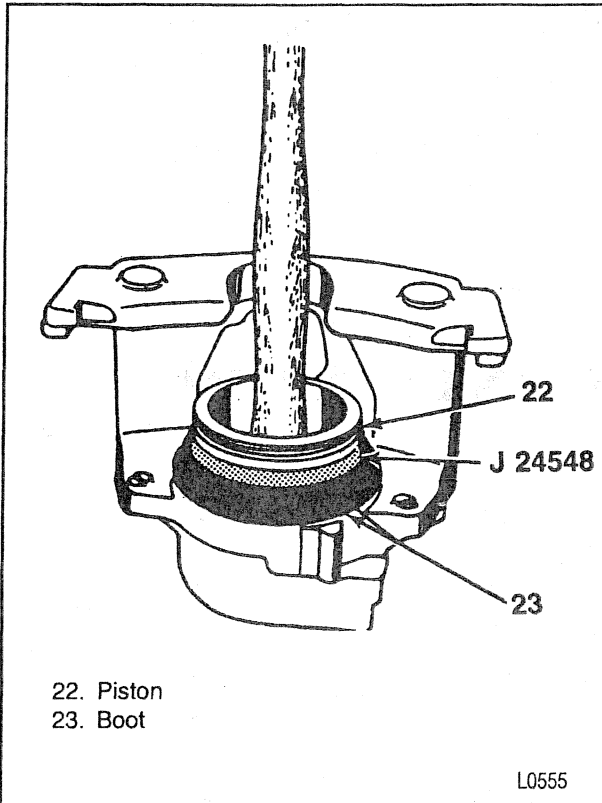

Figure 32—Installing the Piston
5. Piston (22) inside J 24548 (figure 32).
7. Bleeder valve (20).